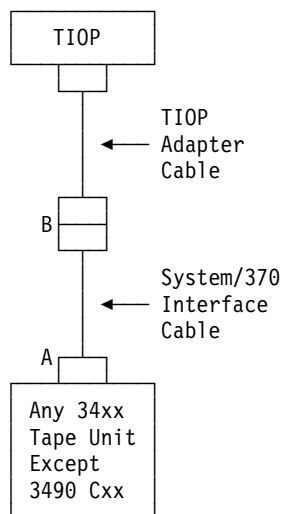

Figure 15. Tape Subsystem Cable Connections
2. The tape subsystem cables connect as shown in Figure 15.
- a. Disconnect the System/370 interface cable from the I/O device control unit (at **A** in Figure 15).
- b. Disconnect the TIOP adapter cable from the System/370 interface cable (at **B** in Figure 15 on page 471).